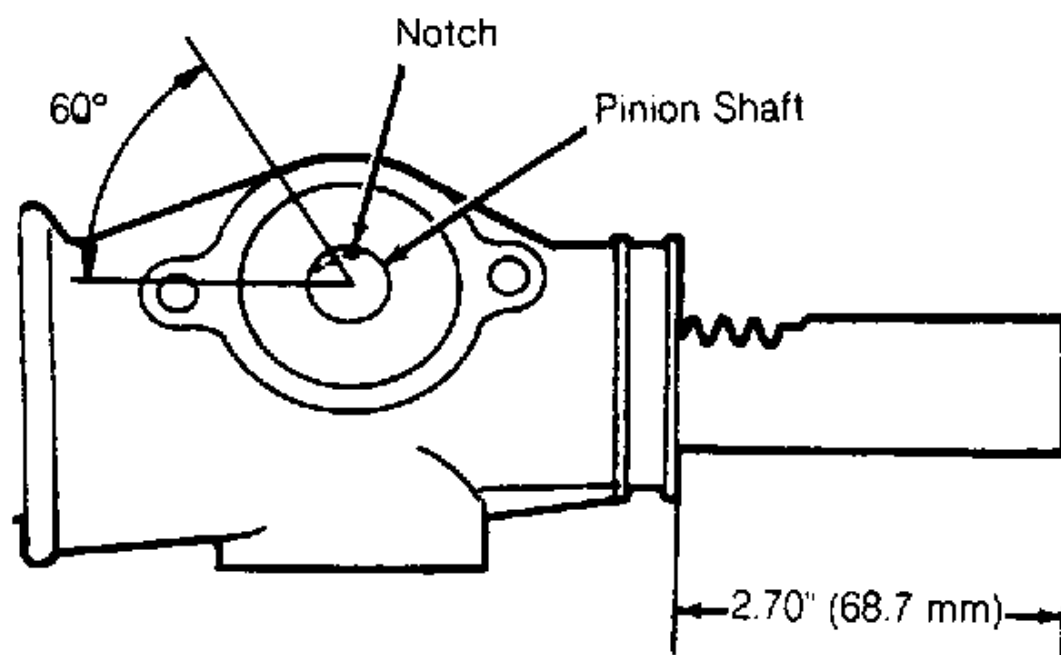

Fig. 2: Installing Pinion Shaft (Capri)
- Stake nut to pinion shaft. Install pinion shaft into housing with rack extending 2.70" (68.7 mm) out of housing on pinion shaft end or centered in housing. Also, notch on pinion shaft spline must be located 60 degrees from horizontal center. See Fig. 2.